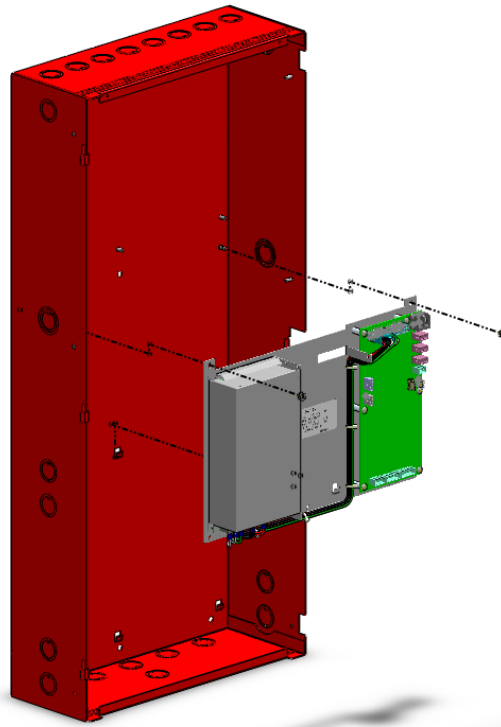

Figure 2-19. Installing the Add-On Power Supply/PMU Assembly with Bracket
5. Orient the Power Supply/PMU Assembly with the power supply unit(s) to the left, as shown below in Figure 2-19.